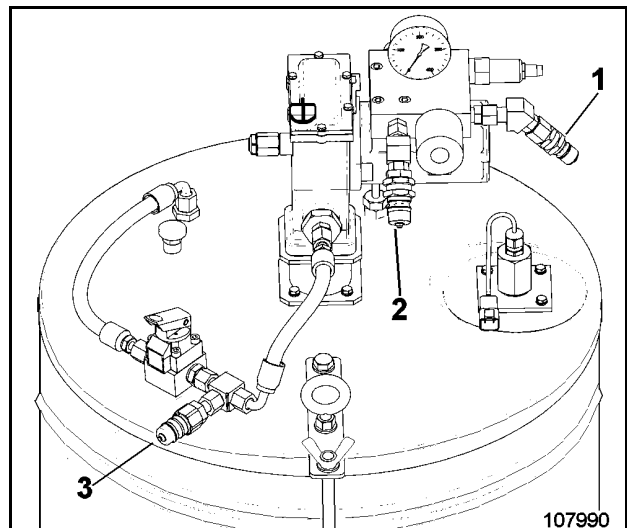

Fig. 3-151:
- Detach hydraulic lines (1 and 2, Fig. 3-151:) and grease line (3) from the express couplings.